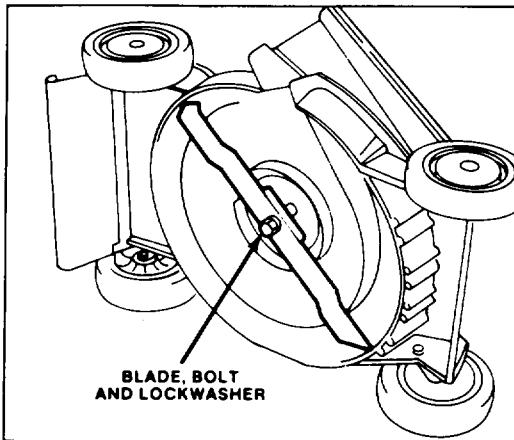

Figure 14
2. Tip mower on its left side (Fig. 14).
3. Tip mower on its left side (Fig. 14).
5. REMOVING BLADE – Grasp end of blade using a rag or thickly padded glove. Remove blade bolt, lockwasher and blade (Fig. 14).